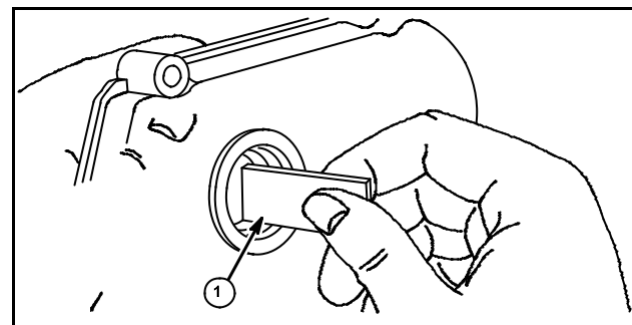

Fig. 4
Bearings should be replaced if scored or if plug gauge (1) will enter. Try gauge at several locations in bearing, Fig. 4. See gauge listing in TABLE NO. 6 or 7, Specifications. If gauge is not available, refer to TABLE NO. 2, Specifications, for reject dimensions.